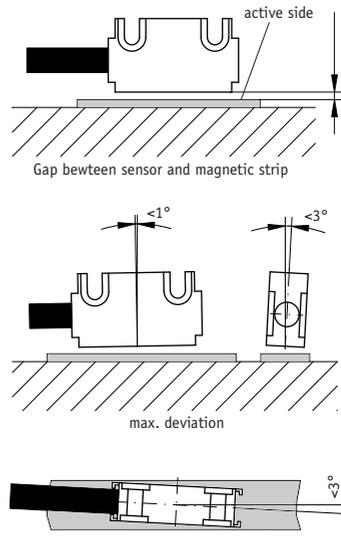

Fig. 7: Mounting of sensor
- When mounting the magnetic sensor, ensure that the gap between strip & sensor and the max. admissible deviation are maintained over the total measuring length! (see fig. 7)
- Tolerance for the gap between magnetic sensor and magnetic strip not observed over the **total** travel distance. Sensor touches strip (see fig. 7).
- Sensor's active side not mounted towards the magnetic strip (see fig. 7).